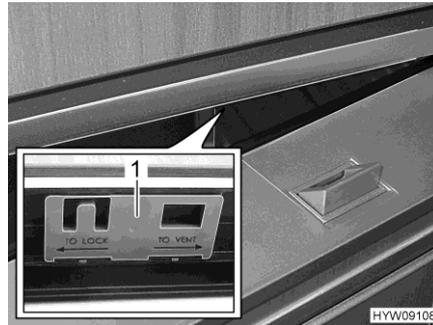

Fig. 124 Refrigerator door (ventilation position)
- Push slider (Fig. 124,1) towards the right.